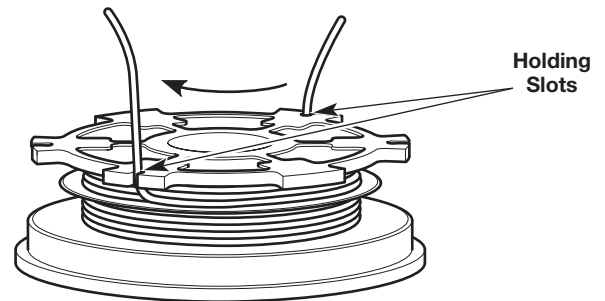

Fig. 21
3. Insert the two 6-inch sections into the two .095 holding slots (Fig. 21).
4. Insert the two 6-inch sections into the two .095 holding slots (Fig. 21).